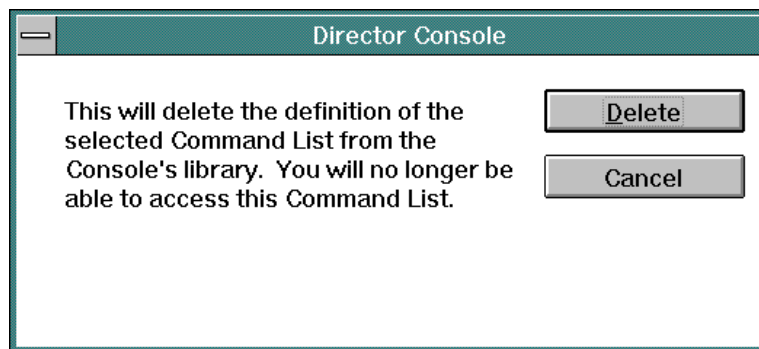

Figure 86. Delete Command List Dialog Box
- **Delete List** - When a list item is selected (highlighted) and the *Delete List* button is clicked, the following dialog box appears (Figure 86).